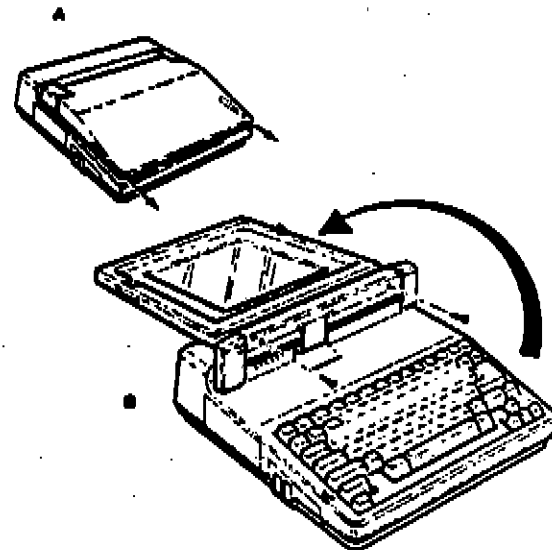

Figure 3-18. Opening the Display
Refer to Figures 3-18 and 3-19 for the following steps.
2. Open the computer and lay the display flat facing up, as shown in Figure 3-18.
3. Remove the two screws to release the display from the top, as shown in Figure 3-18.